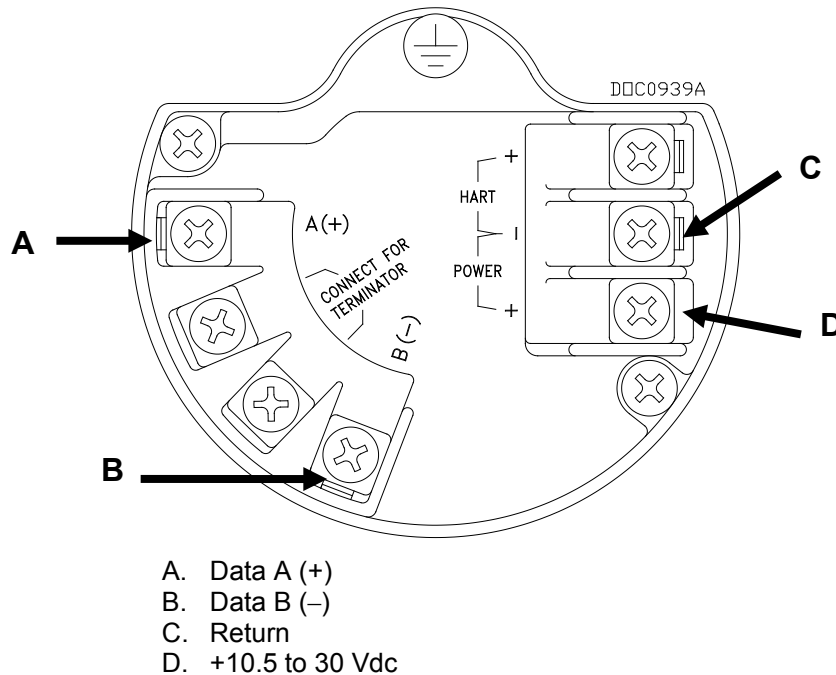

Figure 2-4. Field Link Power and Data Wiring
4. Connect the data + lead to the “A (+)” terminal and the data - lead to the “B (-)” terminal (see *Figure 2-4*).